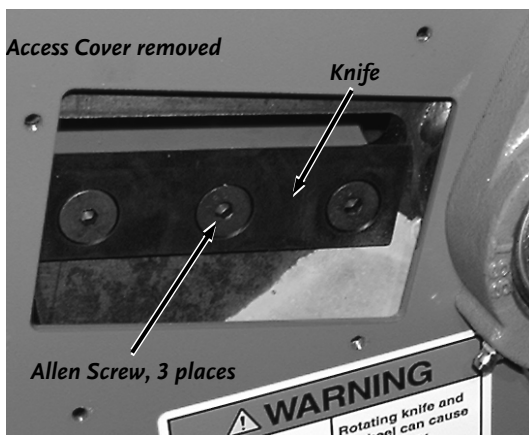

Figure 21
1. Using a 5/16" Wrench, remove the Access Cover (**Figure 21**) on the Chipper Side.
2. Rotate the Chipper Disk using a stick until the three countersunk Allen Screws attaching the Knife to the Flywheel are visible through the Access Opening (**Figure 21**).